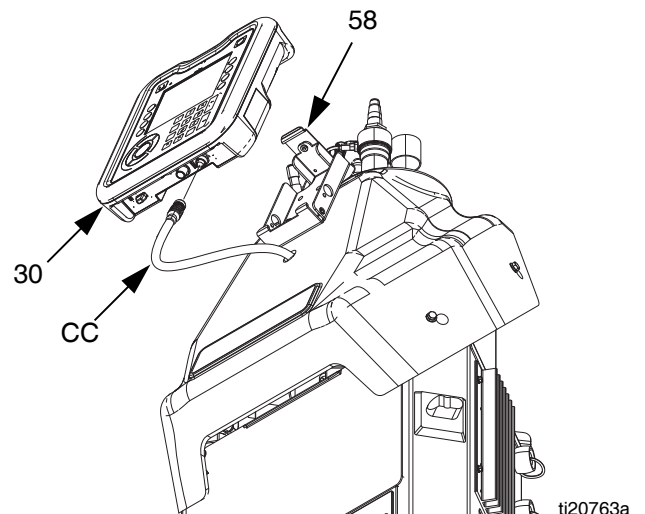

FIG. 48
2. Disconnect cable (CC) from bottom of ADM (30). See FIG. 48.
3. Remove ADM from bracket (58).